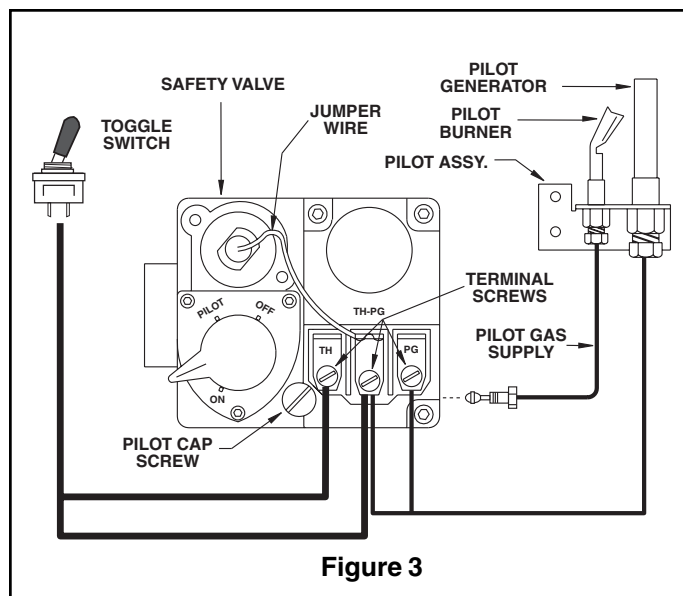

Figure 3
- Connect one of the spade clips on the wires from the generator (Item 5) to the terminal screw marked "PG" and the other spade clip to the terminal screw marked "TH-PG." on the safety pilot valve (Item 2). Tighten screws. (Note: Two wires, one from the toggle switch control and one from the generator, should be connected to the terminal screw marked "TH-PG", BE SURE THE JUMPER WIRE IS IN PLACE (Figure 3).